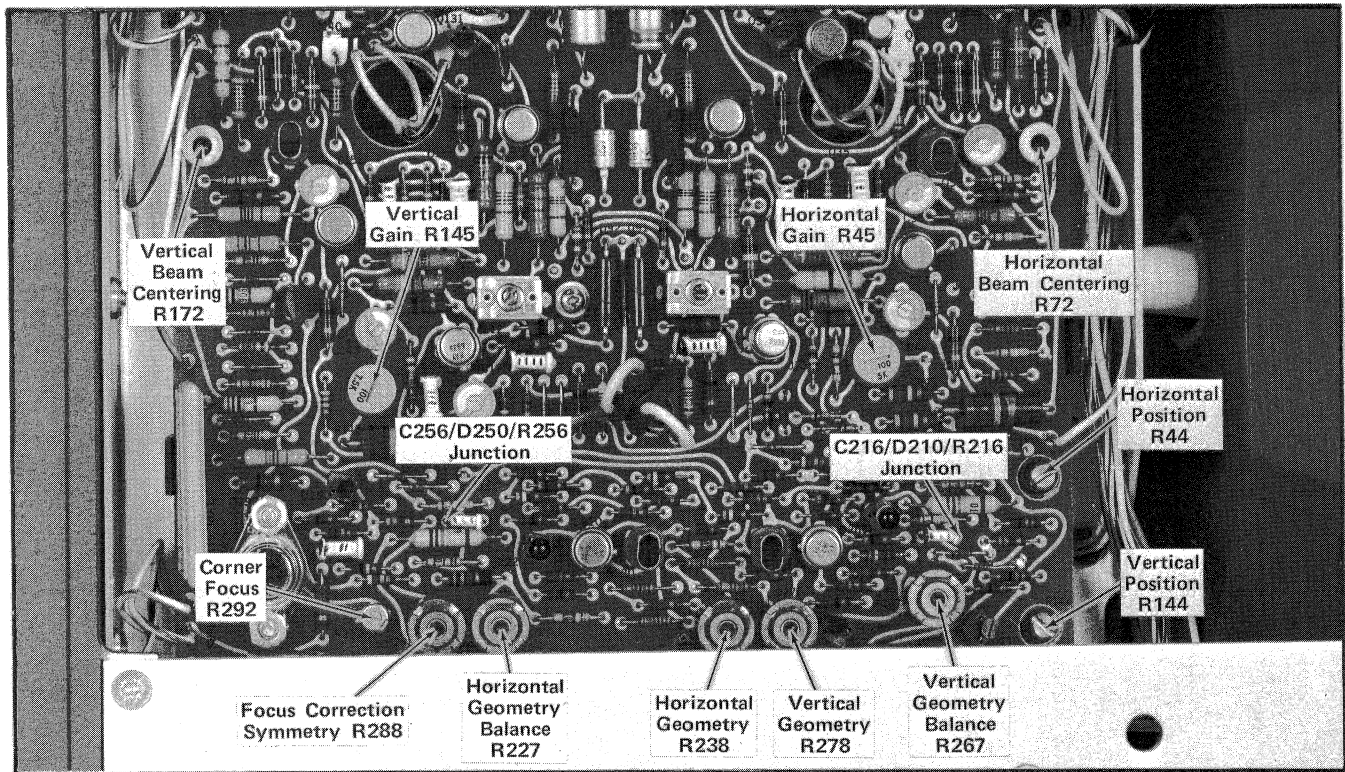
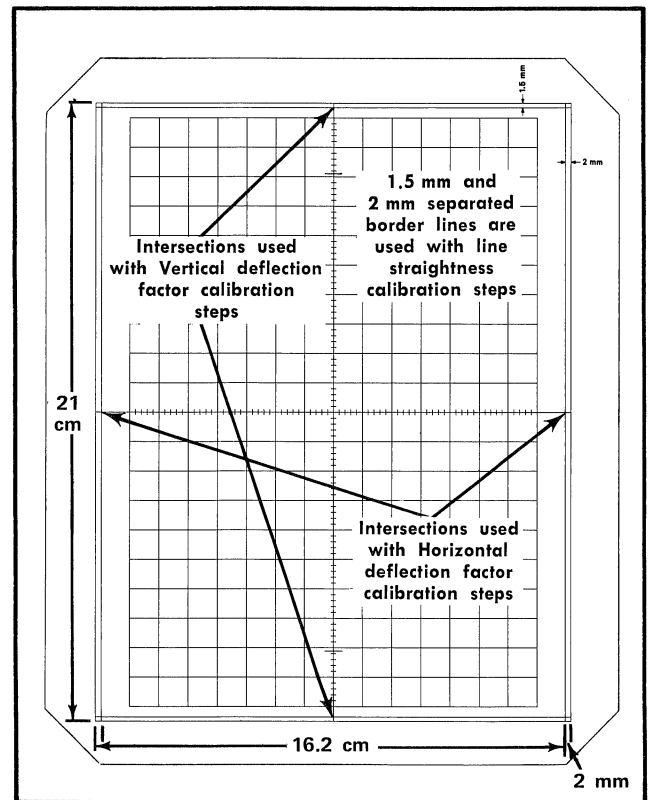

Fig. 5-15. Locations of test points and adjustments for steps 16 through 24.
Fig. 5-16. Test graticule.
c. Connect a 10X probe from the test oscilloscope Channel 1 input to the output of Q210 at the junction of C216, CR210 and R216 (Fig. 5-15) on the X-Y Amplifier board.
g. ADJUST—Horizontal Position control R44 (Fig. 5-15) for minimum DC level and minimum AC component amplitude.
a. Move the Channel 1 10X probe to the output of Q250 at the junction of C256, CR250 and R256 (Fig. 5-15) on the X-Y Amplifier board.
c. ADJUST—Vertical Position R144 (Fig. 5-15) for minimum DC level and minimum AC component amplitude.
c. ADJUST—Horizontal Beam Centering control R72 and Vertical Beam Centering control R172 (Fig. 5-15) to align the spot with the center of the graticule.
g. Readjust R44 to align the left-hand dot with the left border line of the graticule (Fig. 5-16). Readjust R144 to align the dots with the horizontal centerline.
i. ADJUST—Horizontal Gain control R45 (Fig. 5-15) for a dot separation of 16.2 cm. Use R44 and R144 as positioning controls to align the dots with the graticule lines.
c. Readjust R144 to align the lower dot with the bottom border line of the graticule (Fig. 5-16). Readjust R44 to align the dots with the vertical centerline.
e. ADJUST—Vertical Gain control R145 (Fig. 5-15) for a dot separation of 21 cm. Use R44 and R144 as positioning controls to align the dots with the graticule lines.
e. Position the display so that most or all of the left vertical line is located within the 2 mm spaced lines on the left graticule border (Fig. 5-16).
i. ADJUST—Horizontal Geometry Balance control R227 and Horizontal Geometry control R238 (Fig. 5-15) for optimum vertical line straightness within the required tolerance of 2.1 mm.
23. Check or Adjust Horizontal Line Straightness (R267 and R278) ①
b. Position the display so that most or all of the top horizontal line is located within the 1.5 mm spaced lines on the upper border of the test graticule (Fig. 5-16).
f. ADJUST—Vertical Geometry Balance control R267 and Vertical Geometry control R278 (Fig. 5-15) for optimum horizontal line straightness within the required tolerance of 1.63 mm.